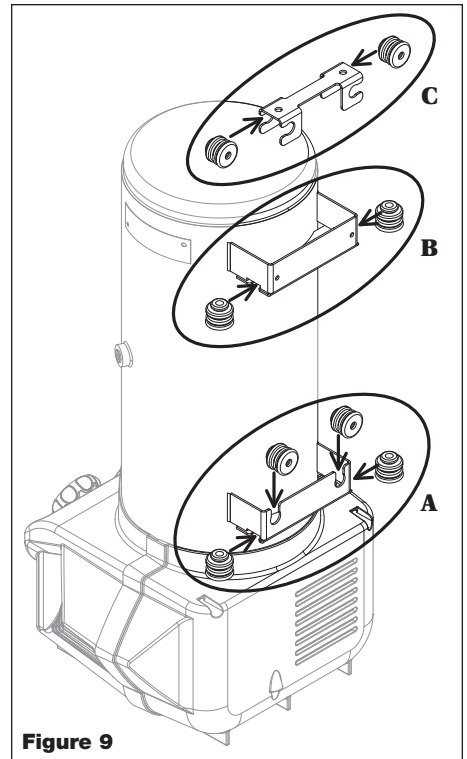

Figure 9
Locate the lower tank bracket on the air compressor. Slide four vibration isolators onto the lower tank bracket as shown in Figure 9 (A). Locate the upper tank bracket on the air compressor. Slide two vibration isolators onto the upper tank bracket as shown in Figure 9 (B). Locate the mounting bracket cap. Slide two vibration isolators onto the mounting bracket cap as shown in Figure 9 (C).